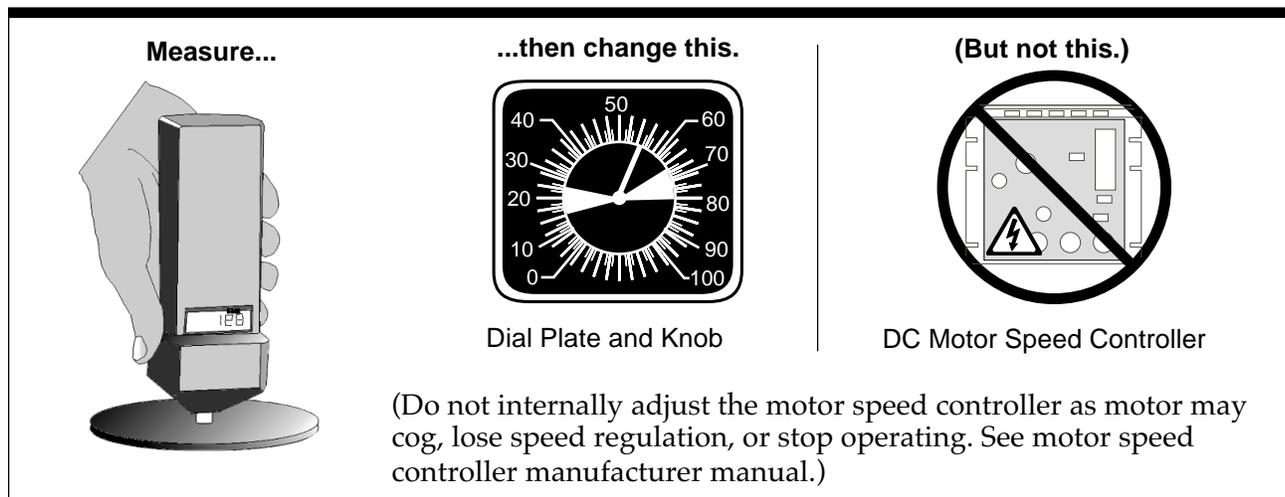

Figure 3-1. Measuring and Changing Bowl Speed (DC Motors Only)
▶ You will need a hand-held tachometer (analog or digital) with a surface speed wheel indicator (see Figure 3-1).